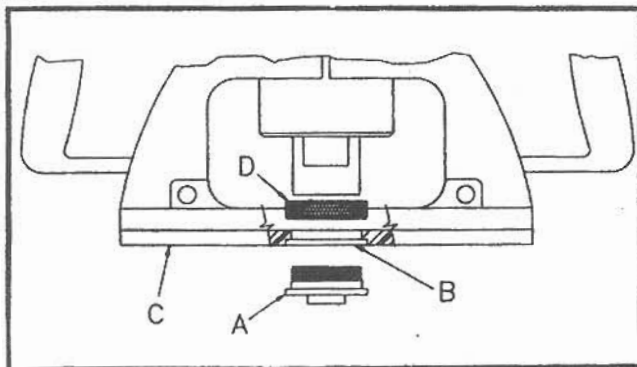
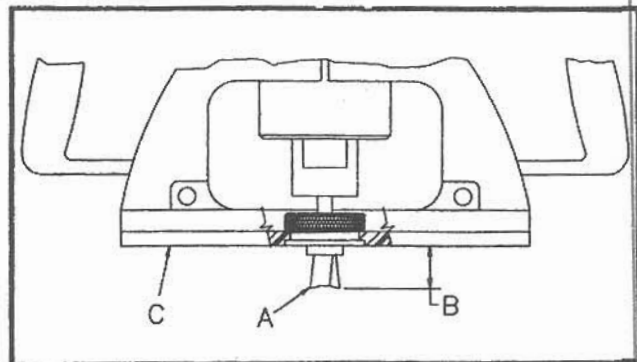

Fig. 4
Fig. 5
2. Insert templet guide, (A) Fig. 4, in hole (B), in router sub-base (C).
3. Install templet guide locknut (D) on templet guide and firmly tighten to lock templet guide in sub-base.
4. Insert dovetail bit, (A) Fig. 5, through templet guide into router collet.
5. Adjust router so dovetail bit projection (B) from bottom of router sub-base (C), is $19/32$ ".